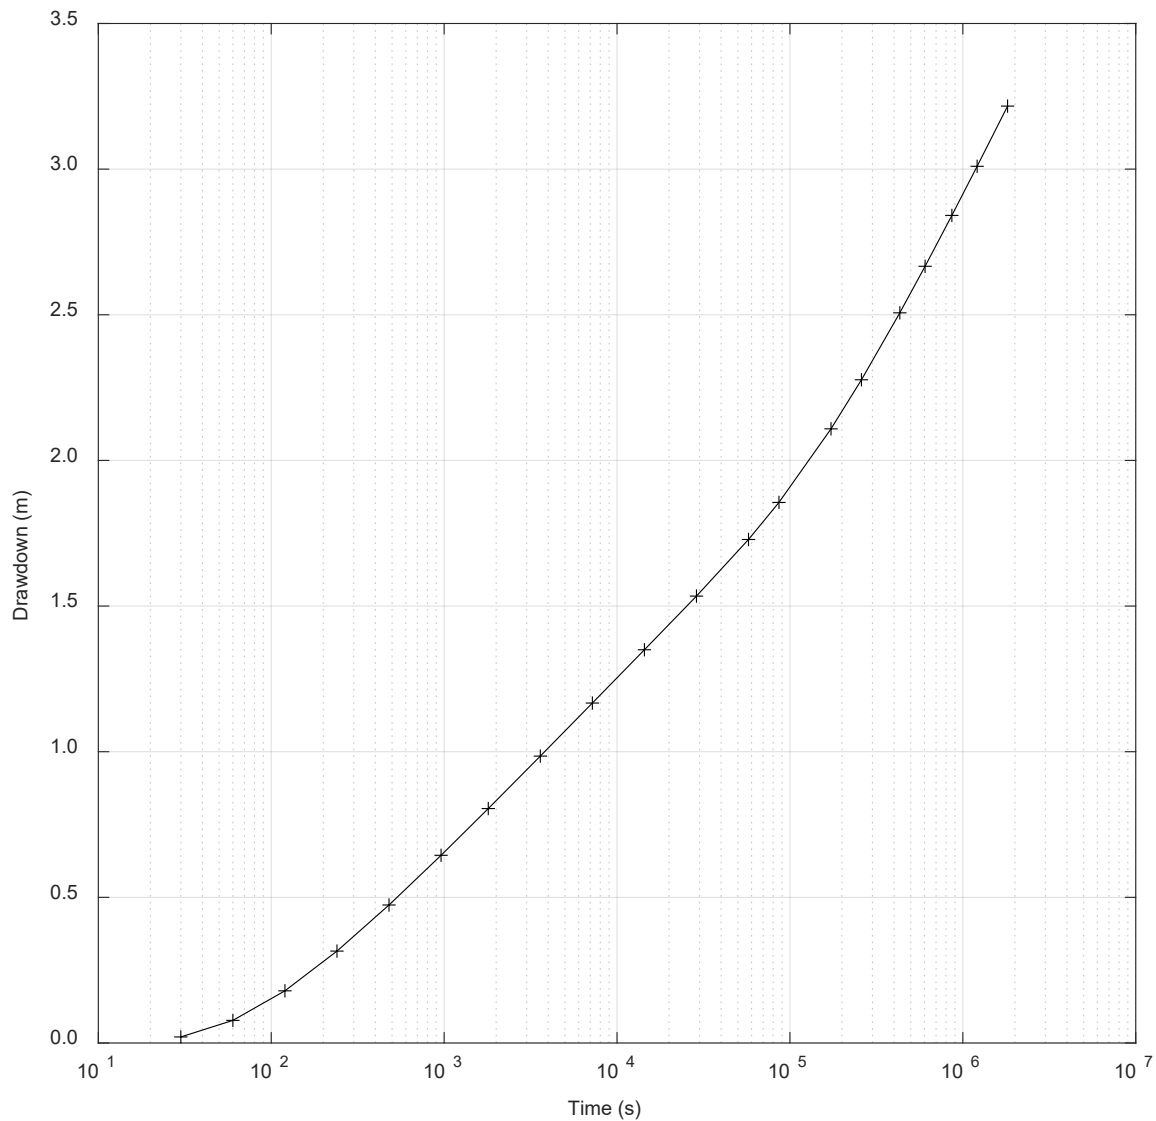

Figure 4: Semi-log plot of the drawdown
A pumping test was conducted in a confined aquifer with a thickness of 4 m. The pumping well is fully penetrating the aquifer. Before the pumping test, a piezometer was installed at a distance of 10 m from the pumping well. During the test, a constant flow rate of 40 L/minute was maintained. Figure 4 shows the drawdown that was observed in the piezometer with respect to the time elapsed since the beginning of the pumping test.
- Using the data presented in Figure 4 and the Cooper-Jacob method, calculate the transmissivity (T) and the storativity (S) of the confined aquifer (15 points).